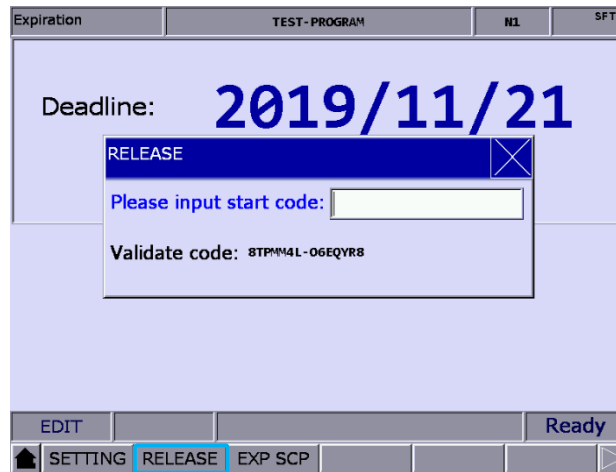

Figure 9.5.4.3
- (1) Press **DGN** to enter the DGN screen.
- (2) Press **PWD** to display the function bar of password setting.
- (3) Press **EXPIRE** to display the expiration information.
- (4) Press **RELEASE** and a dialog box appears as shown in Figure 9.5.4.3.
Note: after the setting of usage duration is disabled, no expiration date is displayed in the Deadline field as shown in Figure 9.5.4.1, which means no usage duration is set for the system.